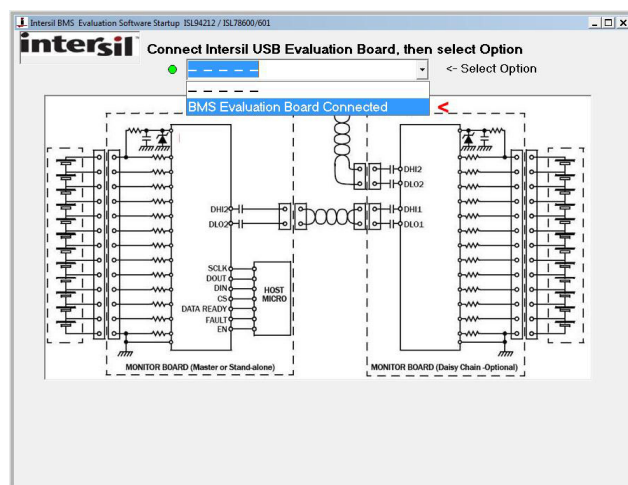

Figure 5. Startup Screen in the GUI
9. Open the ISL94212 GUI software, select the **BMS Evaluation Board Connected** in the **Select Option** box as seen in Figure 5. The software automatically takes user to the Configuration Screen. Select **non-daisy chain** and device type, then click **OK**. The GUI returns to the main screen. Use the software to read the cell voltages and registers.